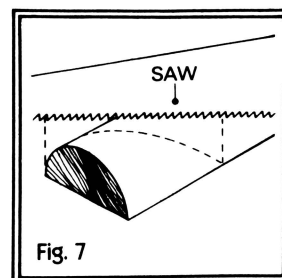
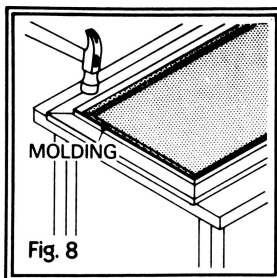

Fig. 7
Fig. 8
3. Mark off a distance of ½ inch at each end of the molding strip. Using the saw, cut this portion off at a 45° angle to have mitered corners (fig. 7). Using the hammer and finishing nails, nail the molding over the screen along the inner edge of the frame surface (fig. 8).